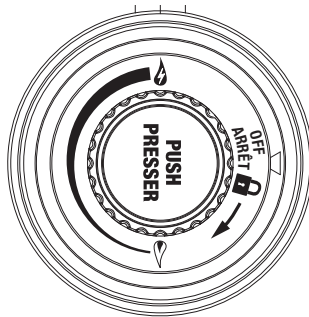

Figure 3
3. Insert and rotate LP gas tank clockwise until they fit snugly together. **HAND TIGHTEN ONLY.** Be careful not to cross threads when screwing in canister. (Figure 3)